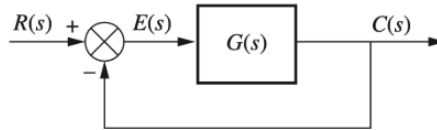

FIGURE P9.1
6. The unity feedback system shown in Figure P9.1 with